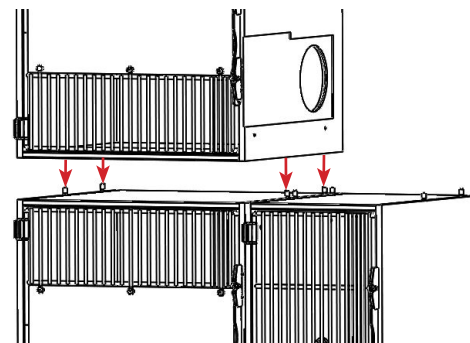

FIGURE 2.24 - Second Row Unit
STEP 2: Carefully lift and align the component for the second row with the guide pins along the edge of the bottom row unit. The living unit is used for these instructions, component placement may vary per order. See FIGURE 2.24